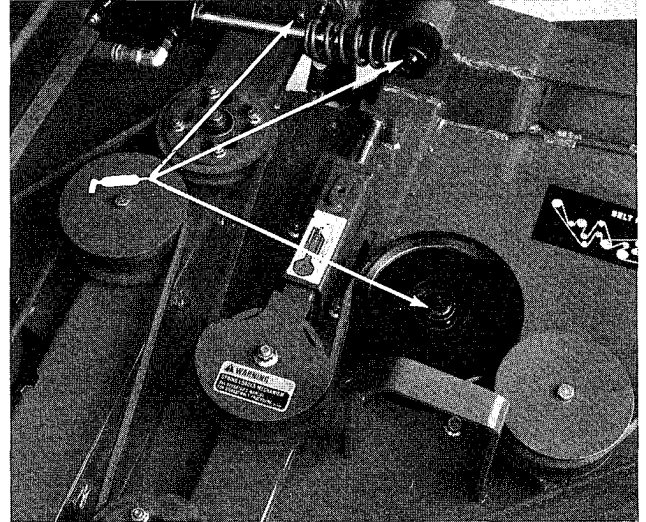
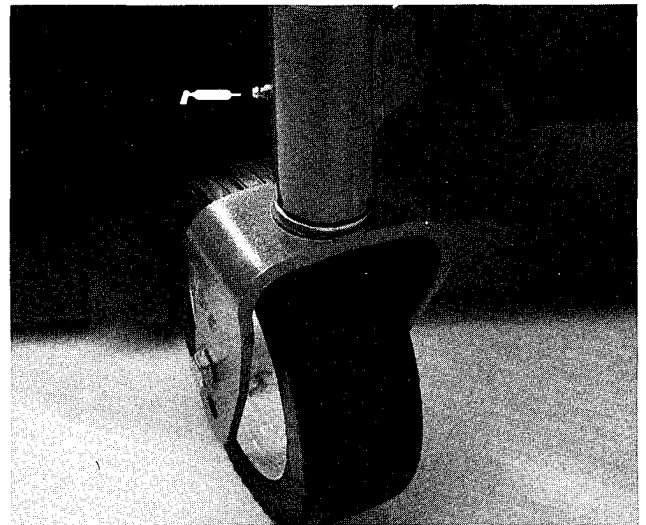
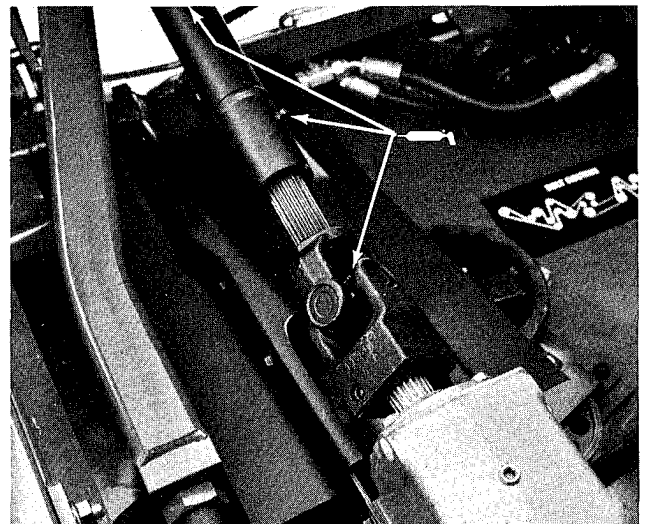

Figure 31
Figure 32
Figure 33
Cutting deck (2 & 4 wheel drive machines) – blade spindles (7), lift cylinder ball joints (4) and Wing Deck Pivot pins (4) (Fig. 31); castor wheels (6); Castor fork shaft (4) (Fig. 32); Lift arm ball joints (2) and PTO to gear box drive shaft assembly (3) (Fig. 33).